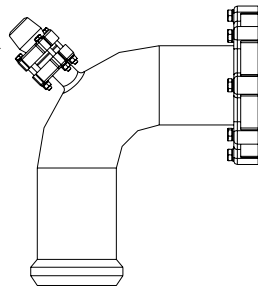

figure17
- Insert the PT100 probe into the appropriate lodging (see figure 17)